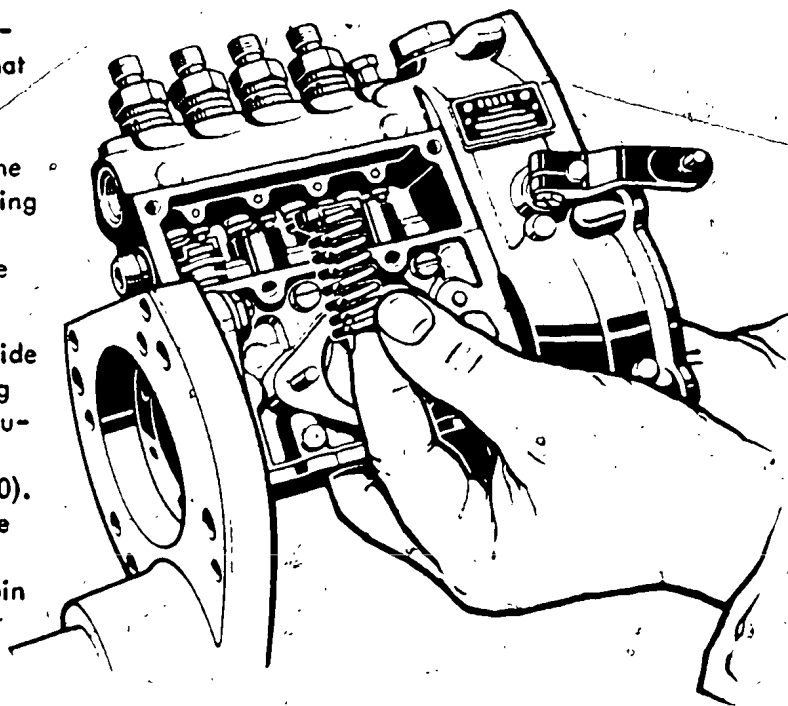

Fig. 8: Fitting upper spring seat
5. Place spring seat on plunger spring (11) (possibly keeping spring seat in position with some grease) and push both together, upwards from below, into the tappet guide. If nevertheless the spring seat shows the tendency to tilt, hold same straight by means of the mounting lever EFEP 307, as during disassembling. See to it that the spring seat is guided in such a way that its small lug engages behind in the recess in the housing; the ground face of the spring seat then lies exactly toward the front (Fig. 8).